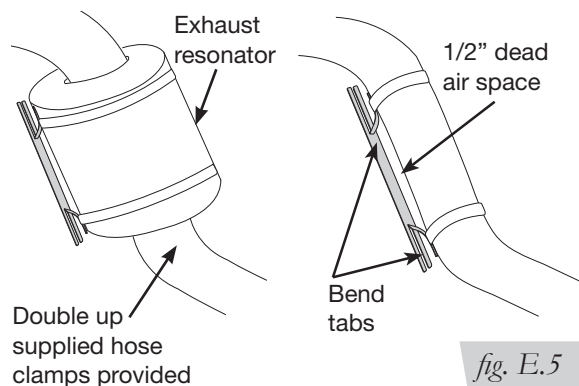

fig. E.5
1. Bend tabs to provide a dead air space between exhaust pipe and heat shield (Figs. E.5 & E.6). Attach the heat shield to the exhaust pipe using the clamps. Bend the heat shield for maximum clearance to the air spring.